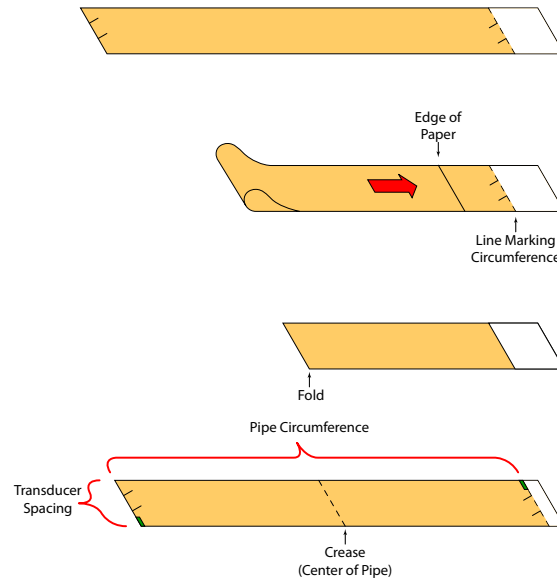

Figure 24: Bisecting the pipe circumference
2. Mark the intersection of the two ends of the paper to indicate the circumference. Remove the template and spread it out on a flat surface. Fold the template in half, bisecting the circumference. See *Figure 24*.